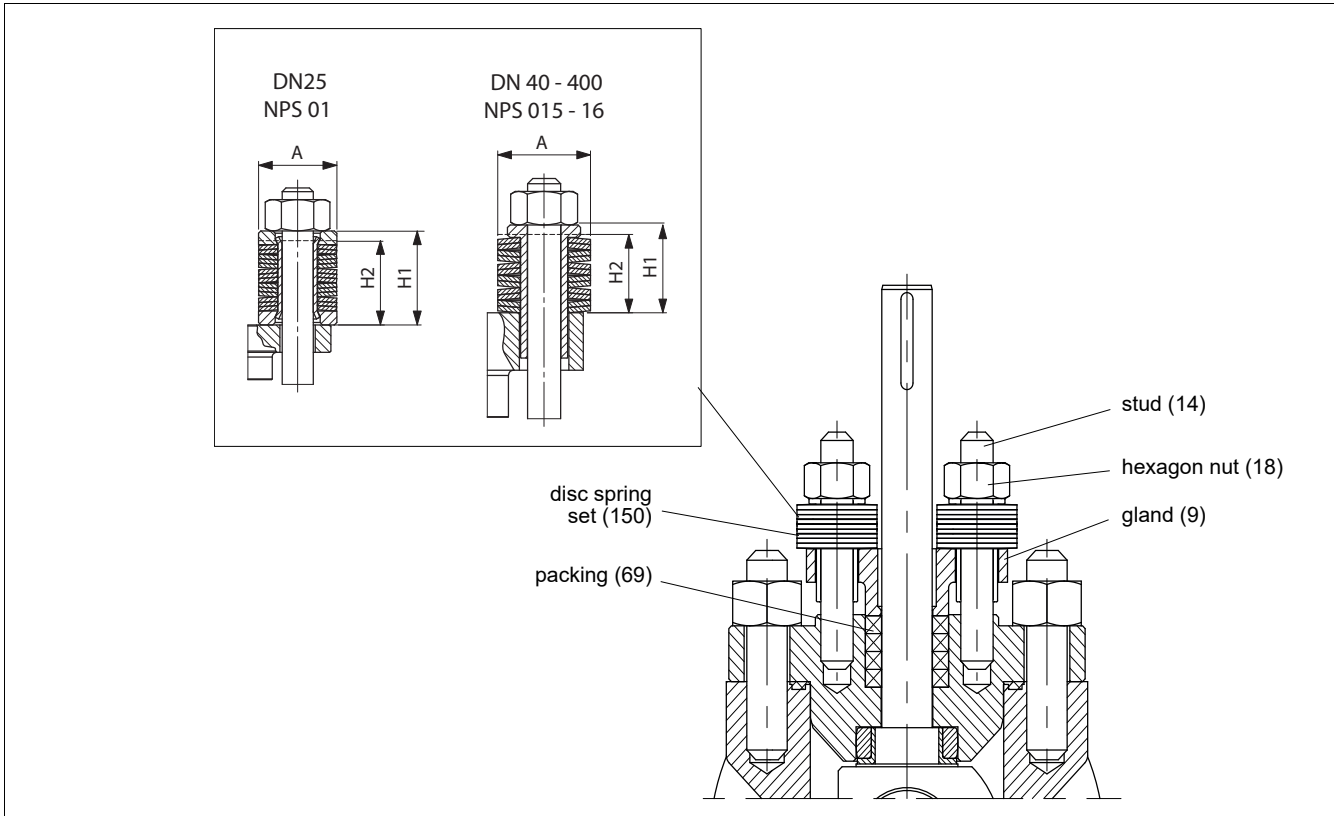

Fig. 9 Gland packing
- Pre-compress the packing rings (69) first tightening the gland nuts (18) to the torque  $T_t$ . See Fig. 9 and the value from Table 2.
- Retighten the nuts (18) to the torque  $T_t$ , see table 2.
- Check leakage when the valve is pressurized. If the leakage still occurs when the valve is pressurized, re-tighten the nuts (18) but don't exceed the torque  $T_t$  value in the Table 2 by 50 %.
- Pre-compress the packing rings (69) first tightening the disc springs (150) to the height  $H_2$ . See Fig. 9 and the value from Table 2.
- Retighten the disc springs (150) to the height  $H_2$ , see table 2.
- Check leakage when the valve is pressurized. If the leakage still occurs when the valve is pressurized, re-tighten the disc springs (150) but do not fully compress (totally flat) them.